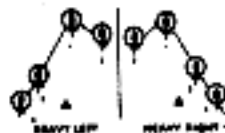

Figure B-3. Heavy Left/Heavy Right.
(1) Heavy Left or Right. Requires a relatively long, wide landing area; presents difficulty in pre-positioning loads; restricts suppressive fire by inboard gunners; provides firepower to front and flank (figure B-3).